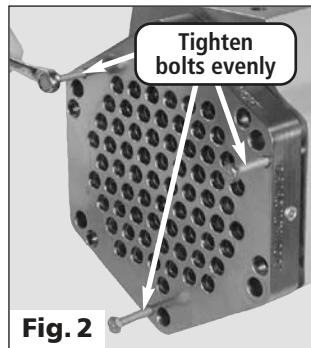

Fig. 2
4. Install the appropriate back-out bolts into the threaded header holes (requires 3" of thread). Finger tighten each bolt until uniformly snug against the shell flange. Then use a wrench to turn in each bolt 1/2 turn at a time separating the header evenly from the shell. **Fig. 2**